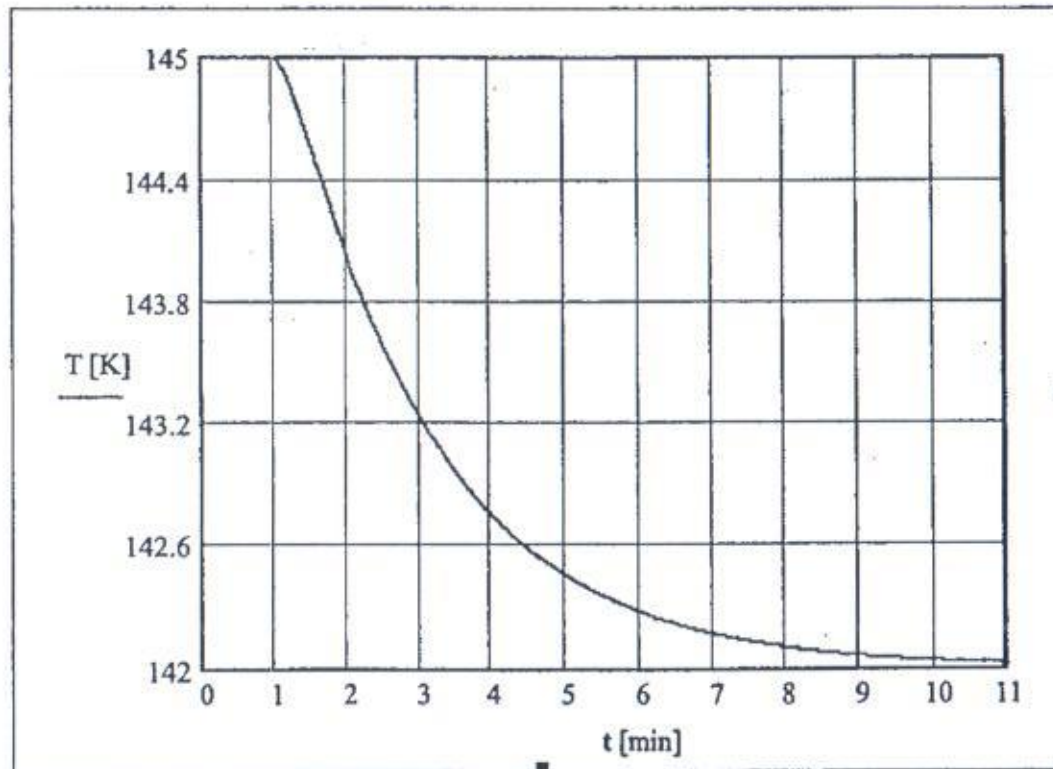

Figure A.3. : Open loop response for heat exchanger.
- [d] The open loop response for the heat exchanger outlet temperature to a  $5\%$  step change on the control valve opening at  $t = 0$  is shown in Figure Q.3 from the nominal values of  $50\%$  control valve opening. Calculate the effective dead time, time constant and gain by using process reaction curve method. Indicate the units of the dead time, time constant and the gain. Show the calculated values in Figure A.3 provided in Appendix and attached with your answer booklet. [6 marks]